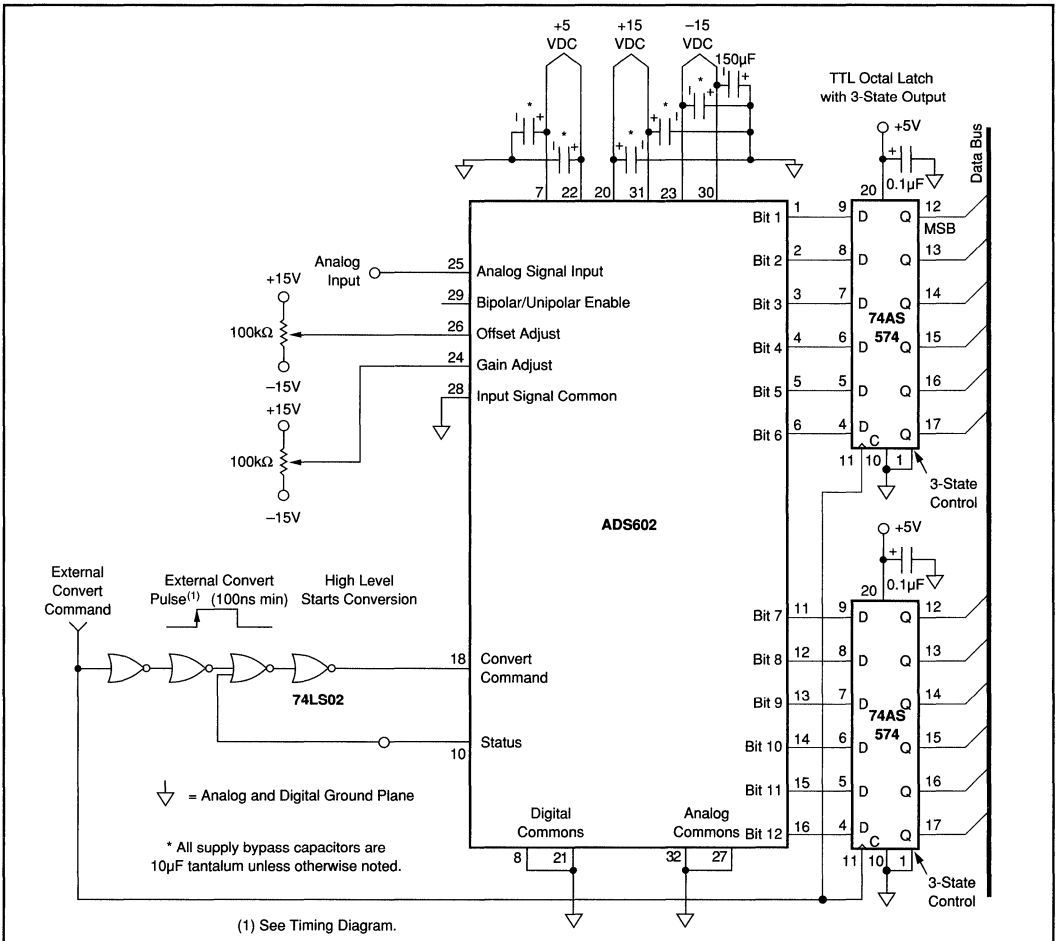

FIGURE 2. ADS602 Application Circuit.
The basic connection for the ADS602 is shown in Figure 2. It is shown connected for $\pm 5V$ bipolar operation. For unipolar operation, pin 29 should be grounded.
The +15V and +5V power supply pins should be bypassed with a 10 μ F tantalum capacitor as shown in Figure 2. Pin 30 requires bypassing with a 150 μ F tantalum capacitor. These capacitors should be located close to the ADS602 supply pins. Ceramic 0.01 μ F bypass capacitors have been provided internally for more effective bypassing and need not be added externally.
Gain and offset errors may be trimmed to zero using external trim potentiometers as shown in Figure 2. Multiturn potentiometers with 100ppm/ $^{\circ}$ C temperature coefficient are recommended for minimum drift. If the gain adjust or offset adjust pins are not used, they must be grounded to meet the specified accuracy.
2. The rising edge of the convert command pulse initiates a conversion. This convert command should remain high until the Status falls (i.e., the internal ADC is finished converting). A simple circuit that provides the correct convert command (pin 18) pulse length, is shown in Figure 2.
4. The data from conversion "N" can be latched directly by the convert command pulse "N + 1". This approach is illustrated in Figure 2. The falling edge of Status may be used to latch the data; however, Status must be delayed by t_{SD} (see Figure 3) plus the external latch (74AS574) setup time.